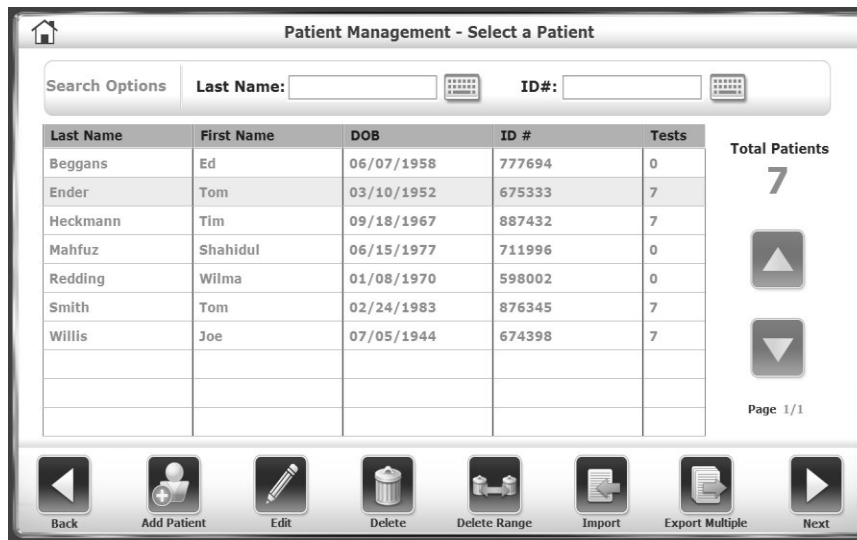

Figure 7.17. Patient Management Screen.
3. At the Access ID Code screen, enter the ID code 159 or the site's code, and touch <OK>. The Patient Management screen is displayed (see Figure 7.17).